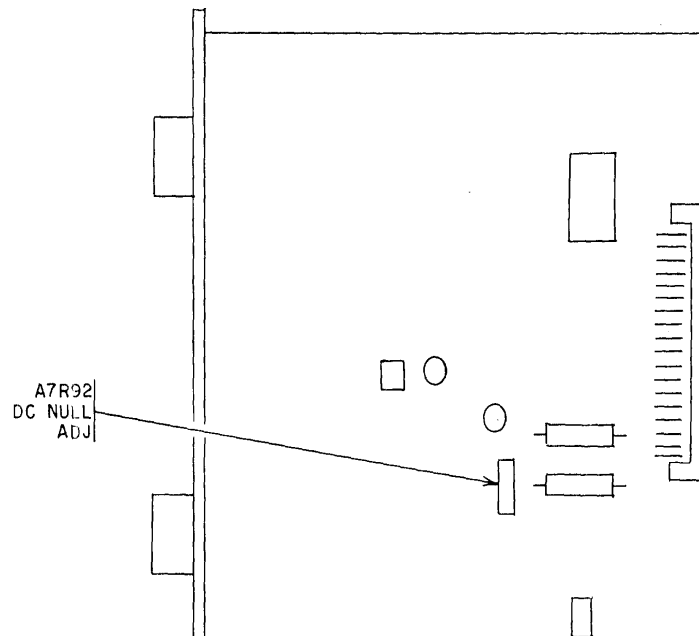

Figure 3. A7 mixer.
(11) Remove ground from A6TP5 and adjust **DC NULL ADJ A7R92** (fig. 3) for 0 V \pm 0.01 V dc (R).
(12) Press **ON-STBY/POWER** pushbutton to **OFF**.